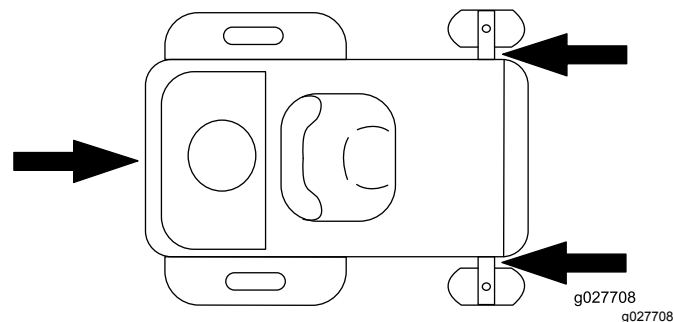

Figure 28
6. Tie down the machine near the front caster wheels and the rear bumper with straps, chains, cable, or ropes (Figure 28). Refer to local regulations for tie-down requirements.